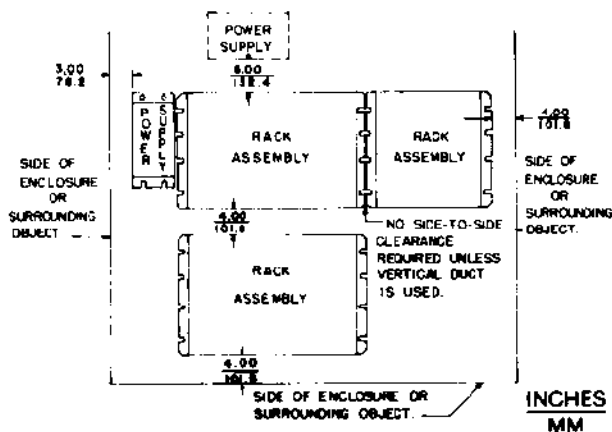

Figure 5 — Rack Assembly Mounting Configurations
- The rack assemblies (Figure 5) can be mounted above each other or directly side by side. A minimum clearance of 4 inches is required between racks mounted above each other. Additional space between racks must be added to accommodate a horizontal wiring duct.